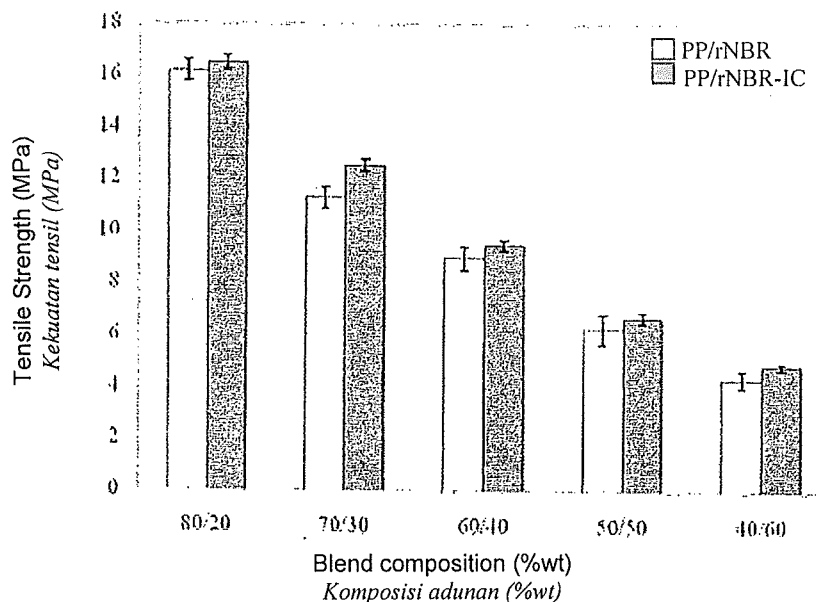
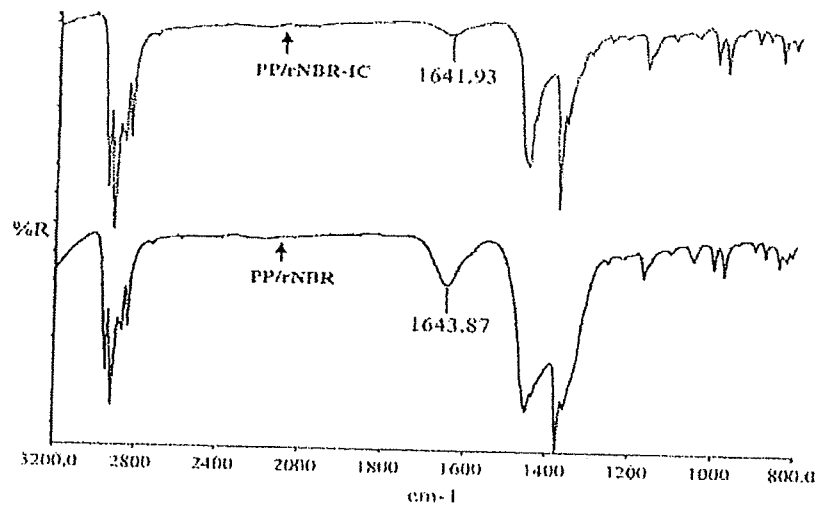

Figure 1 – Tensile strength vs. blend composition of PP/rNBR and PP/rNBR-IC blends
Figure 2 – FTIR spectrum of PP/rNBR and PP/rNBR-IC blends
- [b] Figure 1 shows the tensile strength versus blend composition of PP/rNBR (unirradiated) and PP/rNBR-IC (irradiated) blends. Figure 2 shows the FTIR spectrum of PP/rNBR (unirradiated) and PP/rNBR-IC (irradiated) blends. Discuss and compare the results obtained in both figures.